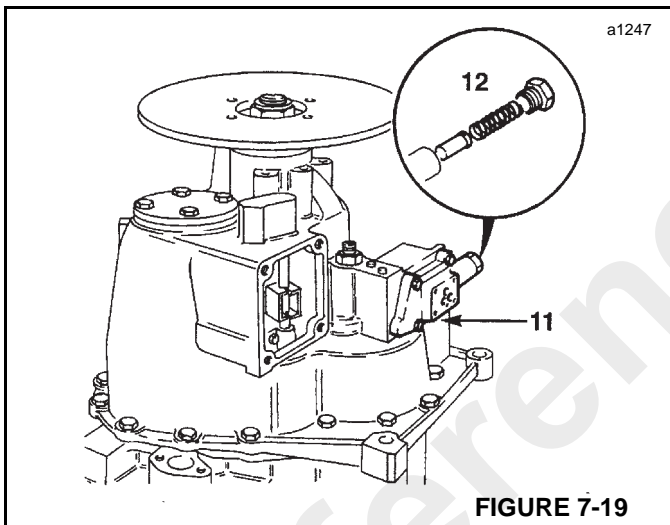

**FIGURE 7-17**
9. Loosen worm drive clips and remove rubber boot from lever turret. Remove spring retaining ring (9, Figure 7-17).